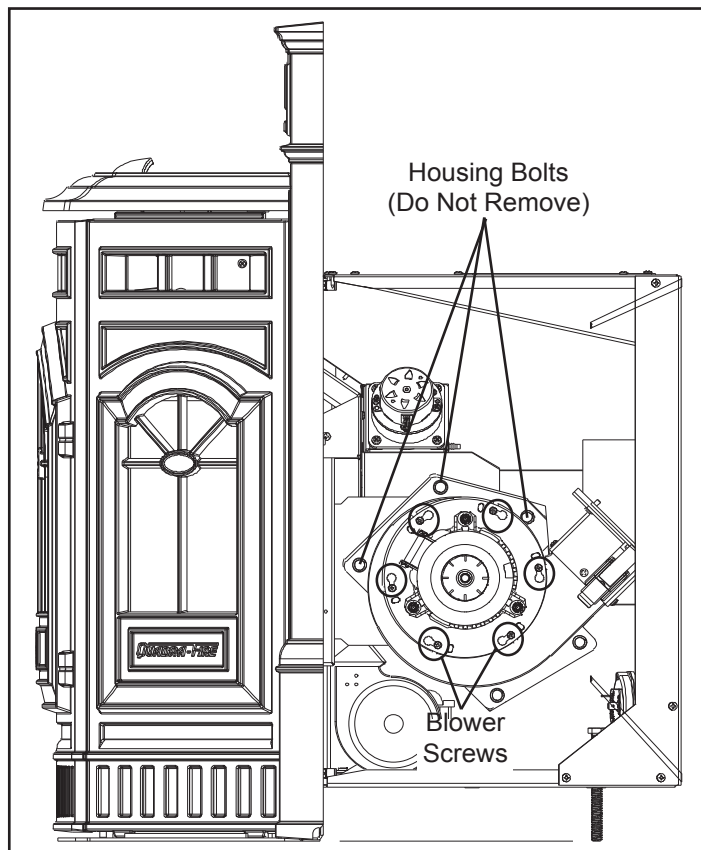

Figure 19.1
- Remove blower mounting screws (not housing bolts), **Figure 19.1**, from blower housing and remove blower. The replacement blower is shipped with a housing. If you do not need the housing, discard it. If you do need to replace the housing you will also need to replace the gasket. See Service Parts List for the part number.